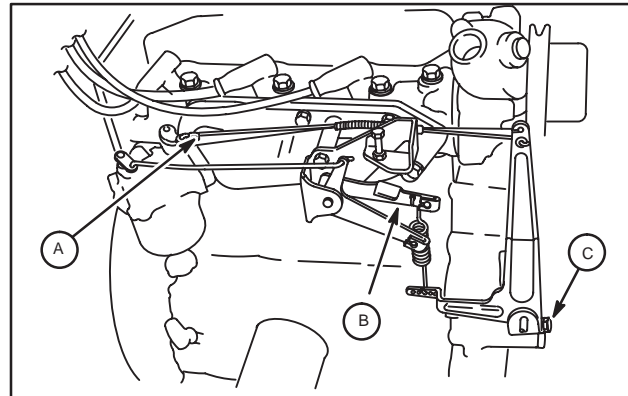

Fig. 1 – Remove Governor Lever
- c. Loosen nut and remove governor lever from governor shaft, Fig. 1.